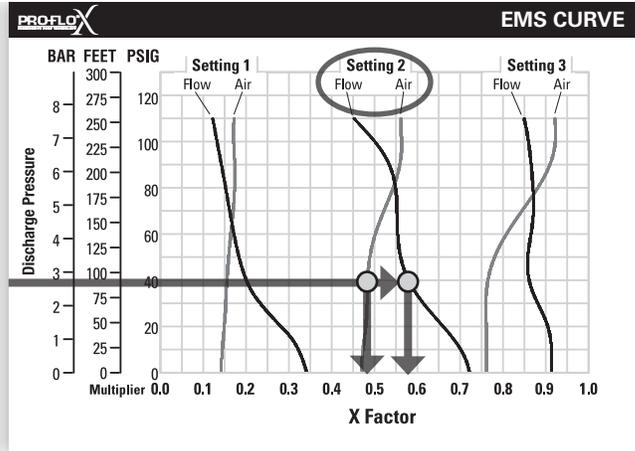

Figure 2
**FIGURE 2** When the pressurized diaphragm, diaphragm A, reaches the limit of its discharge stroke, the air valve redirects pressurized air to the back side of diaphragm B. The pressurized air forces diaphragm B away from the center while pulling diaphragm A toward the center. Diaphragm B is now on its discharge stroke. Diaphragm B forces the inlet valve ball onto its seat due to the hydraulic forces developed in the liquid chamber and manifold of the pump. These same hydraulic forces lift the discharge valve ball off its seat, forcing fluid to flow through the pump discharge. The movement of diaphragm A toward the center of the pump creates a vacuum within liquid chamber A. Atmospheric pressure forces fluid into the inlet manifold of the pump. The inlet valve ball is forced off its seat allowing the fluid being pumped to fill the liquid chamber.
**Step 2: Determining flow and air X Factors.** Locate your discharge pressure (40 psig) on the vertical axis of the EMS curve (Figure 2). Follow along the 2.8 bar (40 psig) horizontal line until intersecting both flow and air curves for your desired EMS setting (in this case, setting 2). Mark the points where the EMS curves intersect the horizontal discharge pressure line. After locating your EMS points on the EMS